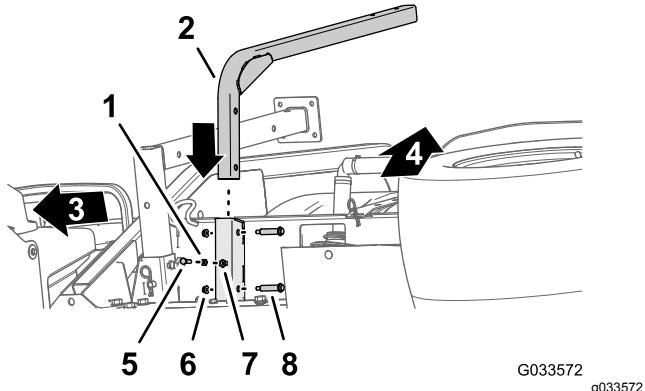

Figure 46
1. Align the support tube for the fresh water tank with the tank-support channel (Figure 46).
2. Align the holes in the support tube with the holes in the channel (Figure 46).
3. Secure the tube to the channel (Figure 46) with the 2 shoulder bolts (1/2 x 1-15/16 inches) and 2 flange locknuts (5/16 inch).
5. Thread the jam nut (5/16 inch) into the bolt (5/16 x 1 inch) as shown in Figure 46.
6. Thread the bolt (5/16 x 1 inch) and jam nut into the weld nut at the bottom of the tank support channel and tighten the bolt and jam nut by hand (Figure 46).